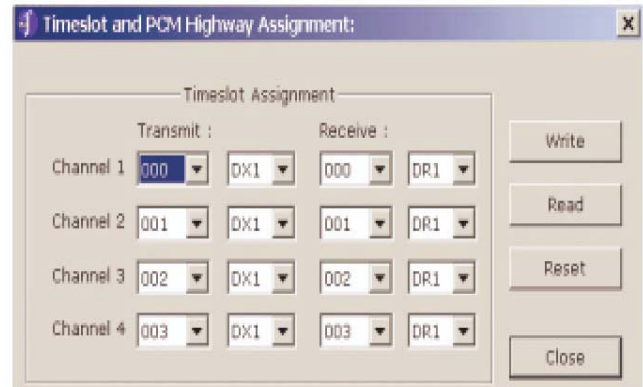

FIGURE 9. TIMESLOT & PCM HIGHWAY ASSIGNMENT SCREEN
This test will demonstrate an end to end phone conversation between Channel 1 and Channel 2. Setting up an end to end phone conversation is accomplished with the Timeslot and PCM Highway Assignment screen (Figure 9). The user can select any time slot for Channels transmit and receive. If the time slot assigned to the receive path of Channel X is the same one assigned to the transmit path of Channel Y, and the time slot assigned to the transmit path of Channel X is the same one assigned to the receive path of Channel Y, then Channel X and Channel Y can communicate with each other.
- From MPI Software screen, Select Timeslot. The Timeslot and PCM Highway Assignment screen will appear (Figure 9).